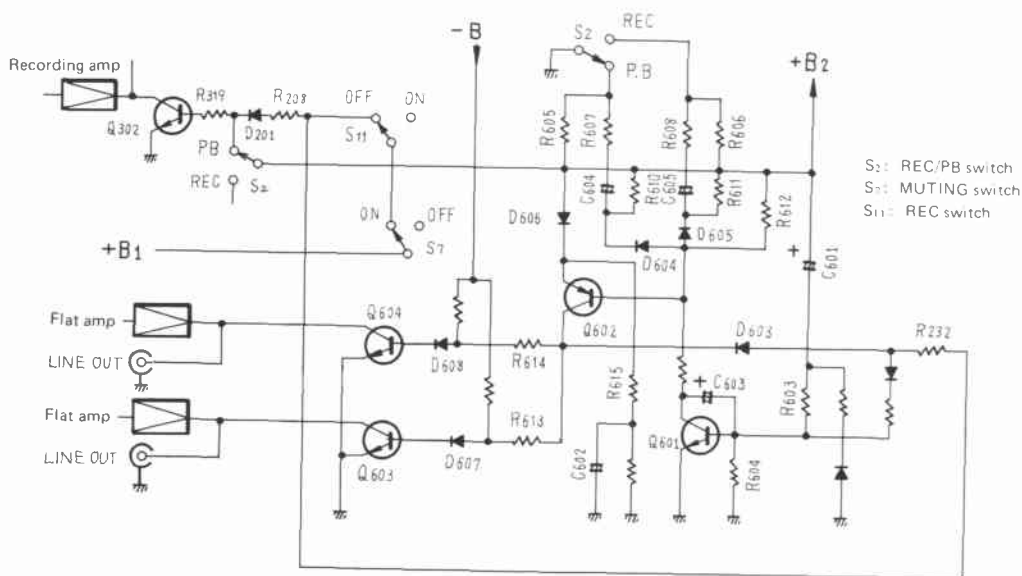

Fig. 16 Muting circuit
Muting when the power switch is turned ON and OFF in the PLAY state (Fig. 16)
**Muting at FF, REW, and STOP (Fig. 16)**
**Recording muting (Fig. 16)**
**Muting at follow-on recording (Fig. 16)**